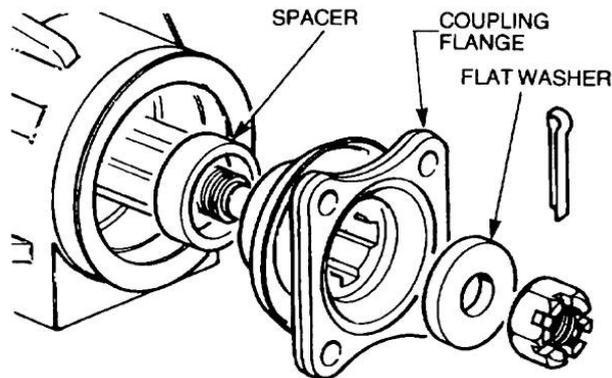

Figure 265 Installation of the Coupling Flange
- v. Apply grease to the seal lips and seal spring and insert the spacer and coupling flange (Figure 265). Fit the flat washer and nut and torque the nut to 95 to 163 N.m (70 to 120 lbf.ft). Lock the nut into position with a new split pin.